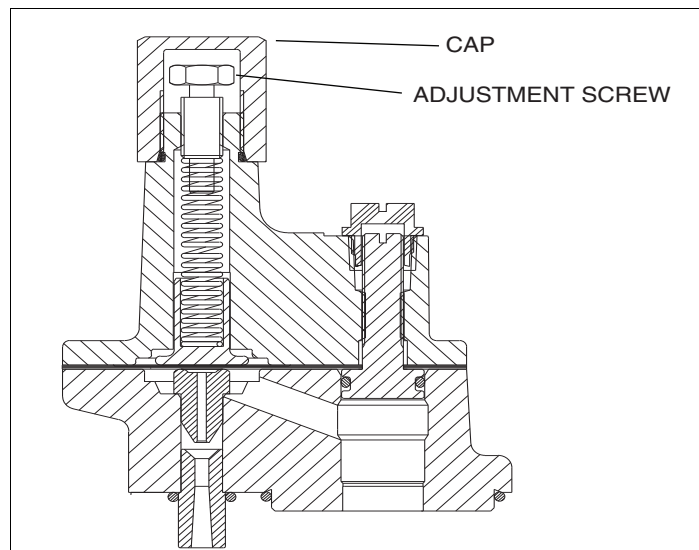

Figure 24. Functional Element Cap And Adjustment Screw
1. Remove the cap (see Figure 24).
2. Turn down the adjustment screw (see Figure 24). Tightening the screw clockwise will increase the pressure. When the adjusting screw is fully down, the relief pressure is approximately 30 psi (207 kPa). Fully up will result in relief pressures between 0 - 3 psi (0 - 20 kPa).